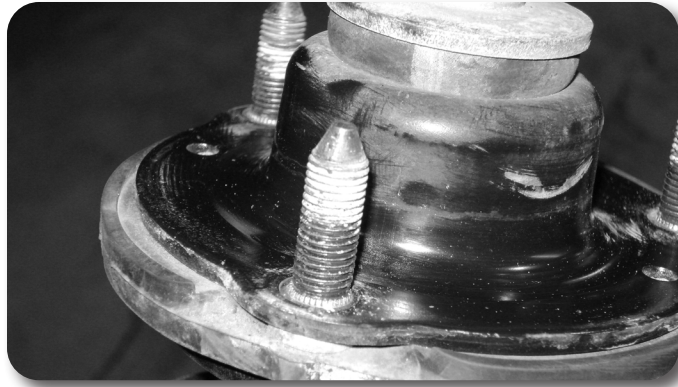

Figure 4A
8. The tips of the factory mounting studs need to be trimmed off approximately 1/8". This can be done with a grinder or cut-off tool. Trimming the studs will ensure the ends set below the top surface of the new spacer once it is installed. **Figure 4A/B**